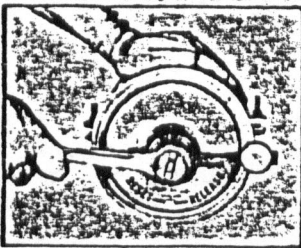

FIG. 1
(1) MANUAL RELEASE (Fig. 1)
- DO NOT USE AN IMPACT WRENCH (Fig. 1).